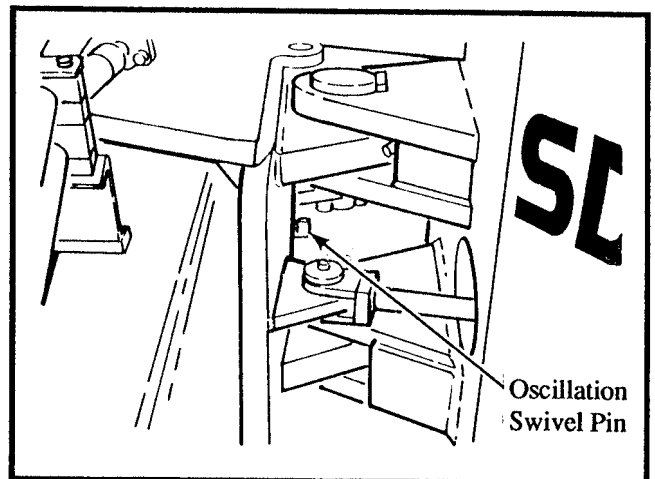

Figure 9-2. Oscillation Swivel Pin
The Oscillation Swivel Pin is located in the articulation area. Grease the one fitting using five (5) shots of MPG-EP grease. Refer to Figure 9-2.